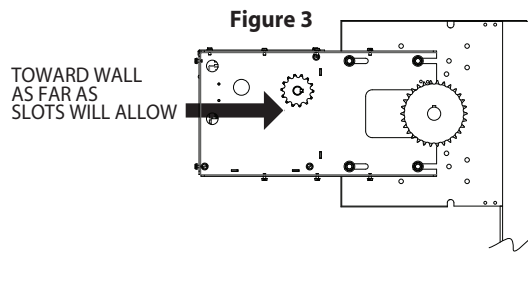

Figure 3A
- 8) Place driven sprocket and key on door shaft and align with output sprocket on operator. **FIG. 3A.**